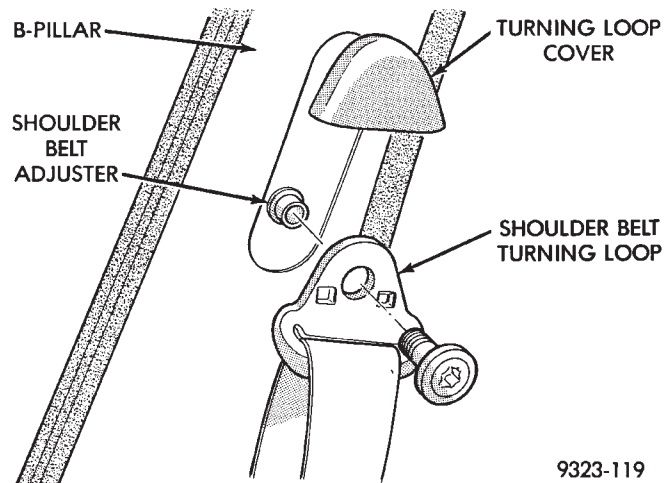

Fig. 63 Front Shoulder Belt Turning Loop
- (1) On back of turning loop cover, disengage clips holding cover to turning loop.
- (2) Separate cover from turning loop.
- (3) Remove bolt holding turning loop to shoulder belt height adjuster (Fig. 63).
- (4) Separate turning loop from adjuster.